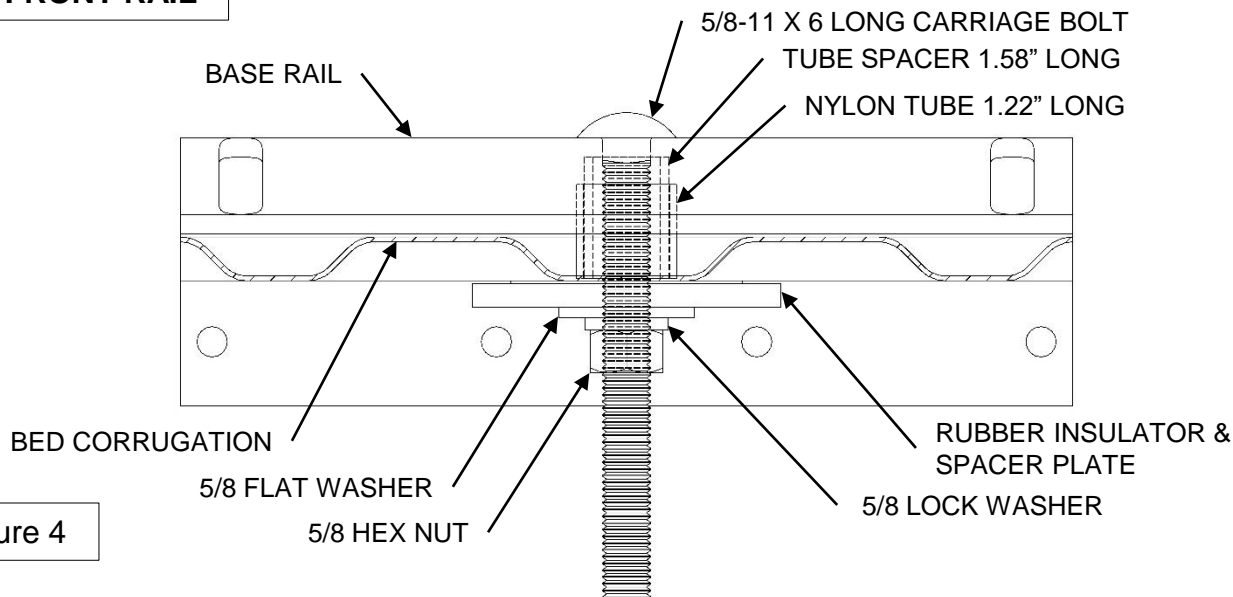
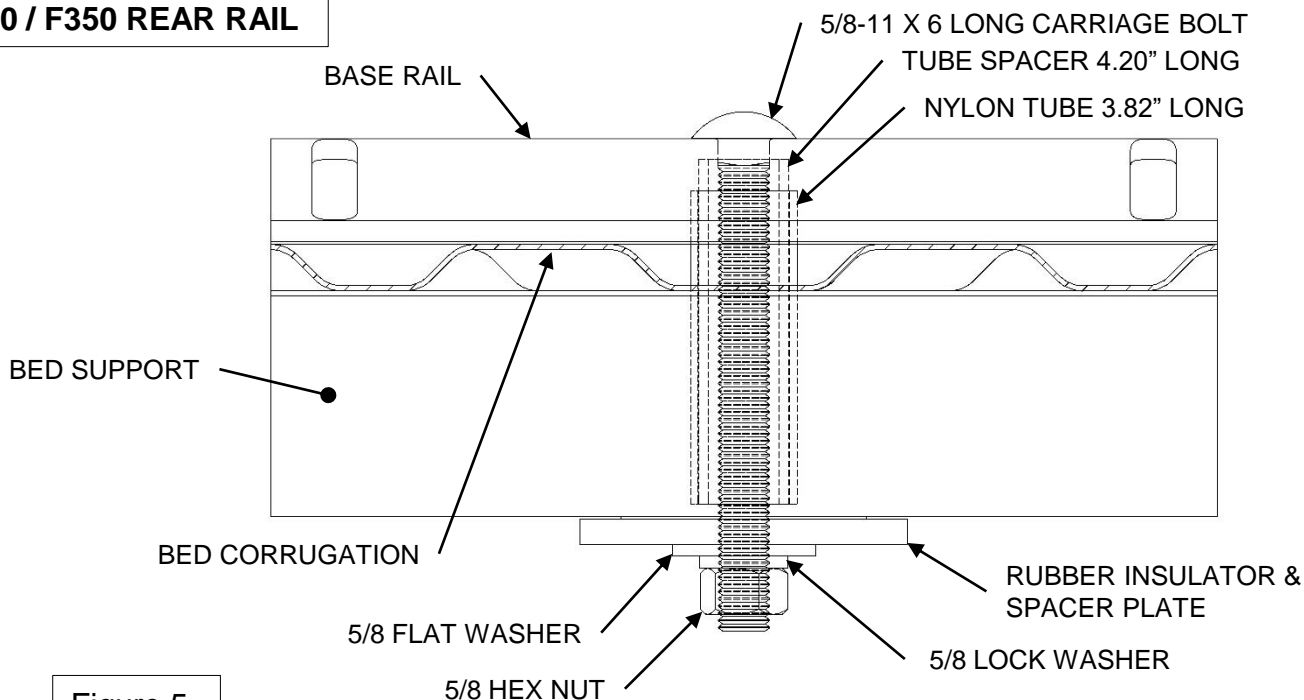
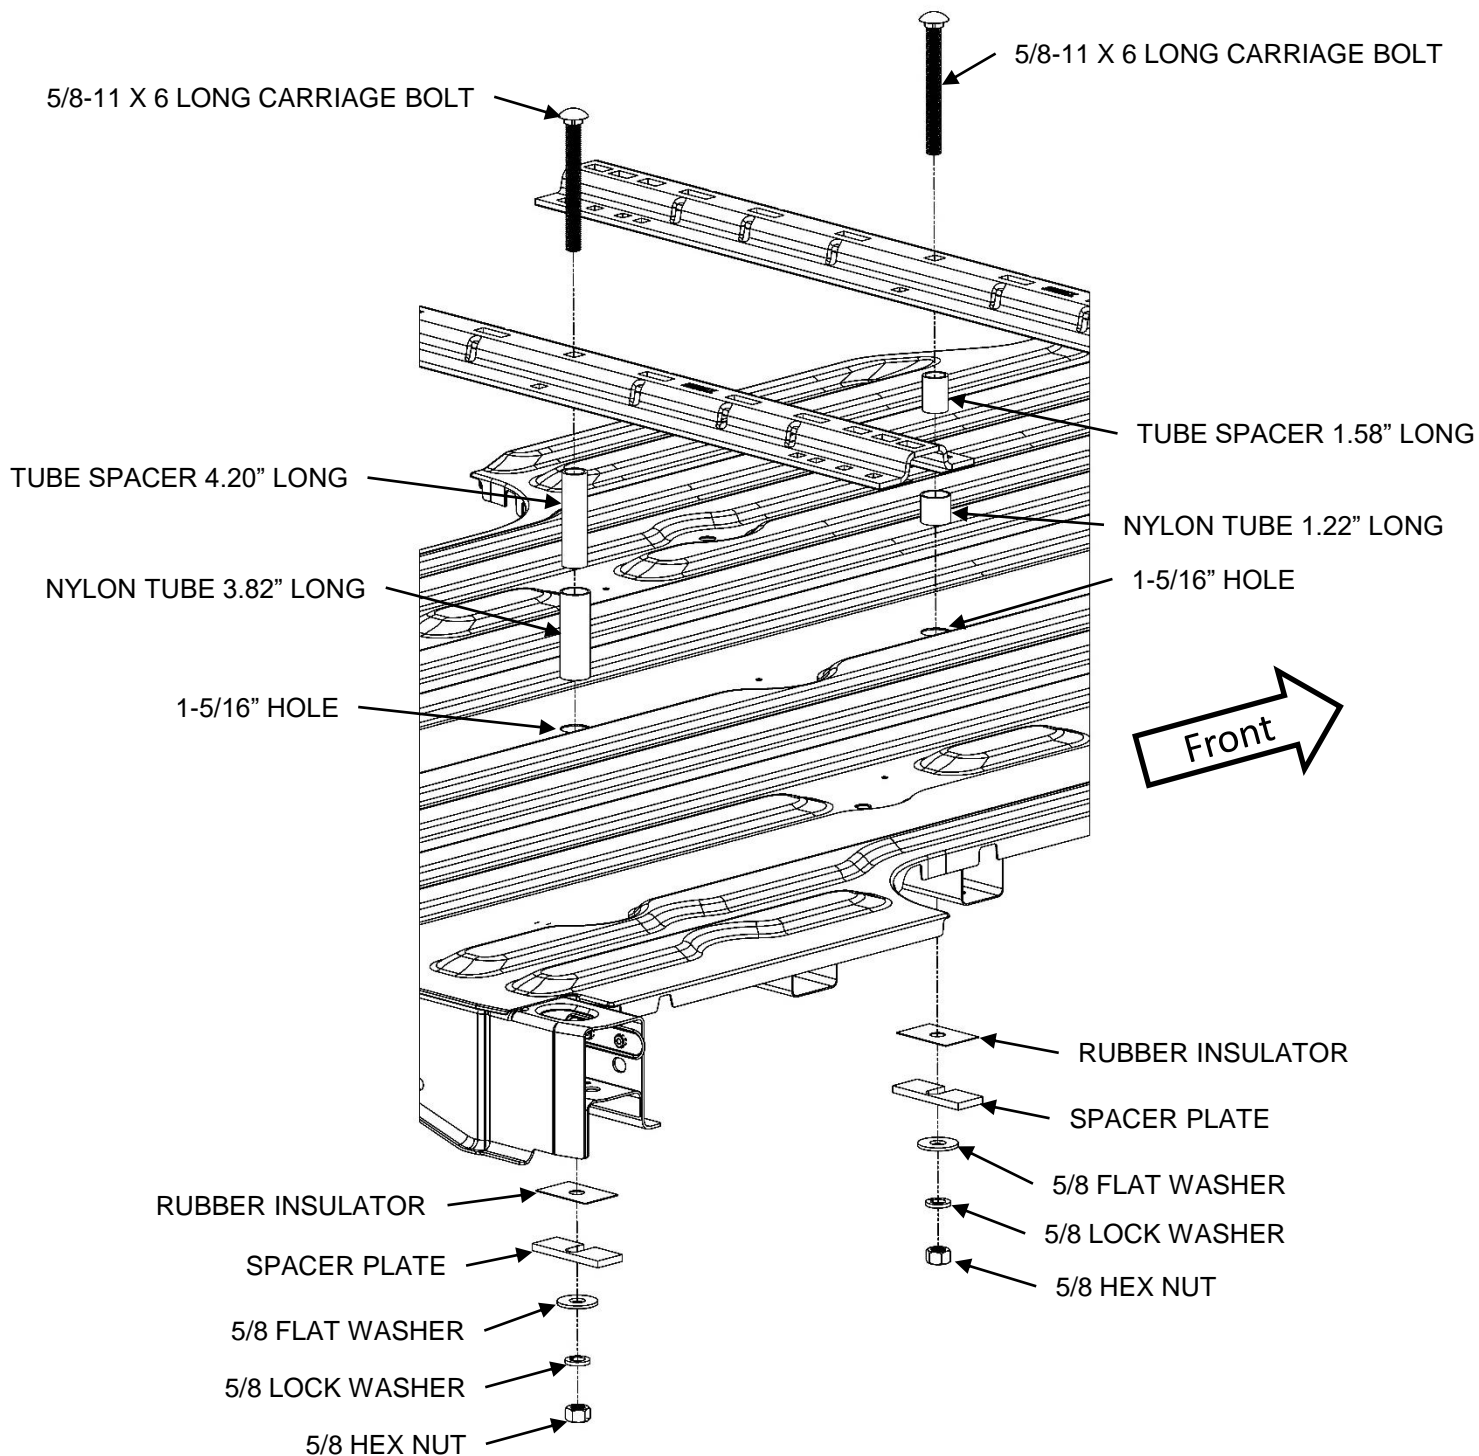

Figure 4
Figure 5
Figure 6
- 5) From underneath of vehicle install tube spacers, nylon tube, rubber insulator, spacer plate, flat washer, lock washer and nut. See FIG. 4, FIG. 5 and FIG.6.